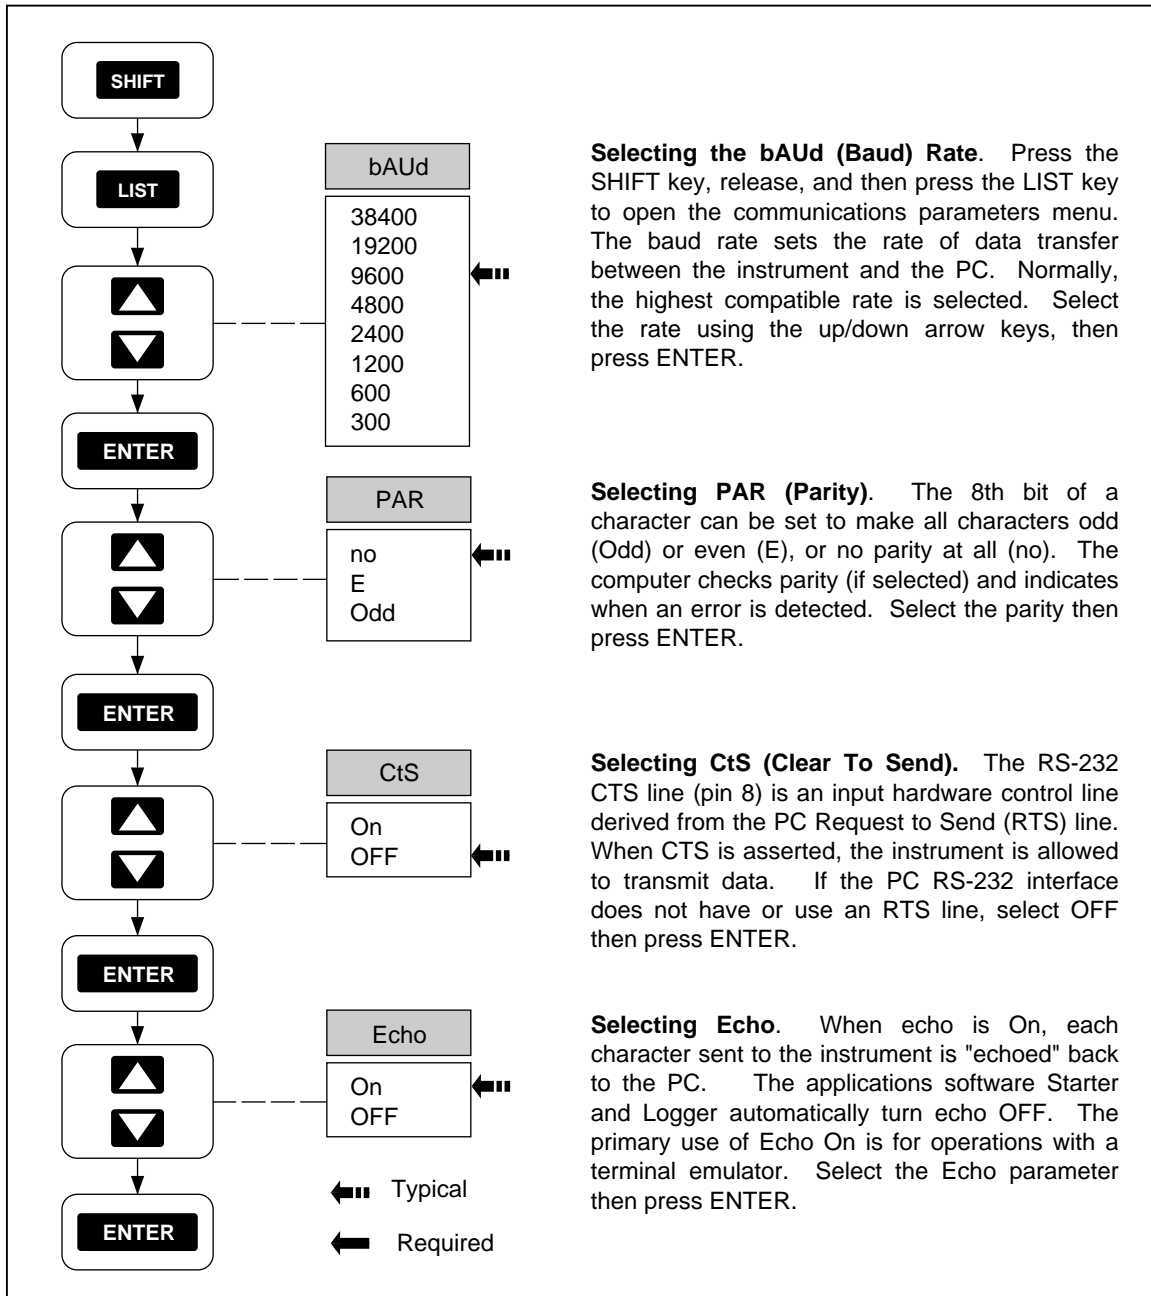

Figure 4-2. Configuring the Instrument for Computer Operations
Correct operation of the interface between the instrument and PC depends on the baud rate, parity, CTS (Clear To Send) and echo of the RS-232 interface parameters. Perform the procedure in Figure 4-2 to establish these parameters for the instrument. The instrument uses one stop bit, which is not selectable.
1. Configure the Data Bucket communication parameters, as described in Figure 4-2, for bAUd = 9600, PAR = no, CtS = OFF, and Echo = On.
5. In Terminal, request the Data Bucket to send its identification number by entering: \*IDN? <Enter>. If \*IDN? did not appear on the screen as the characters were entered, be sure the instrument RS-232 port is configured for Echo = On (Figure 4-2). If the wrong characters appear, there is an incompatibility in the COM port configurations (baud rate, parity, etc.). If everything seems normal, but characters still don't appear, check the RS-232 connection cable (see Appendix D). When the RS-232 link is operating correctly, the instrument returns an identification string and execution prompt similar to the following:
4. In Terminal, request the Data Bucket to send its identification number by entering: \*IDN? <Enter>. If \*IDN? did not appear on the screen as the characters were entered, be sure the instrument RS-232 port is configured for Echo = On (Figure 4-2). If the wrong characters appear, there is an incompatibility in the COM port configurations (baud rate, parity, etc.). If everything seems normal, but characters still don't appear, check the RS-232 connection cable (see Appendix D). When the RS-232 link is operating correctly, the instrument returns an identification string and execution prompt similar to the following: